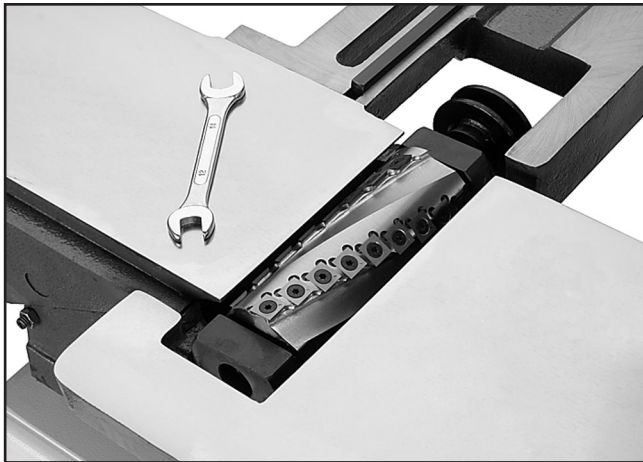

Figure 6. Example of spiral cutterhead installed.
12. Install the cutterhead (**Figure 6**) with the lock washers and hex nuts removed in **Step 5**.